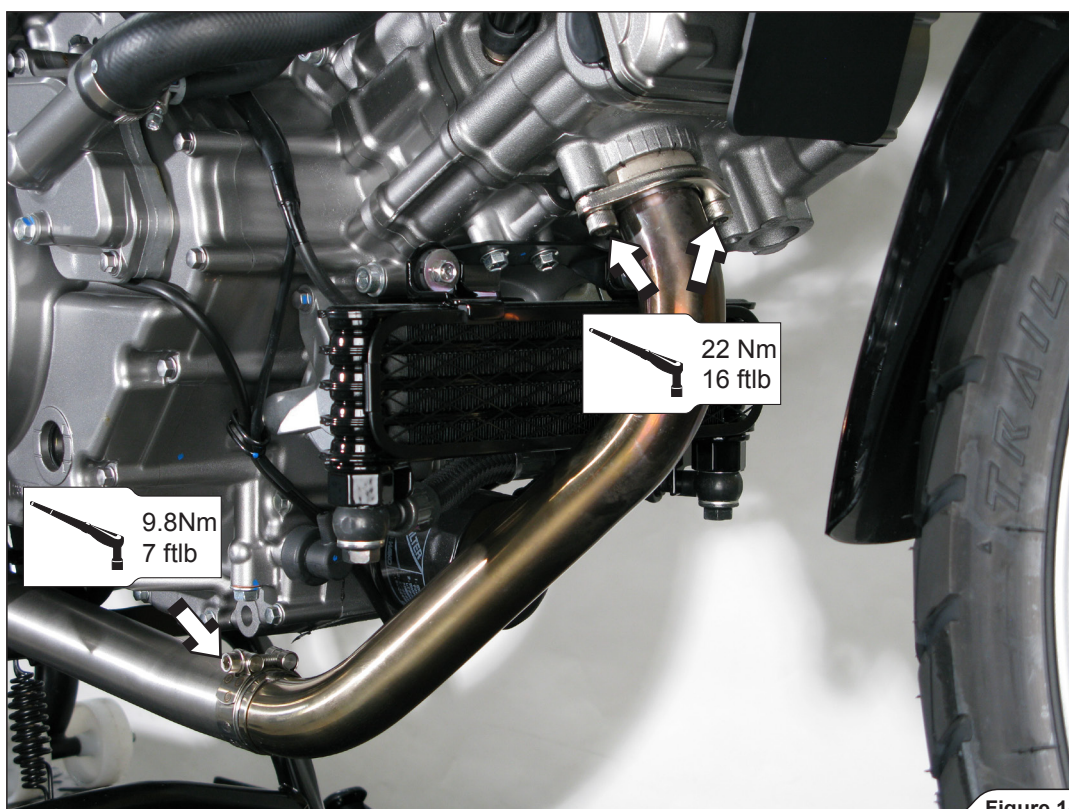

Figure 14
6. Tighten the front header flange and both metal clamps to a specified torques (Figure 14, 15).